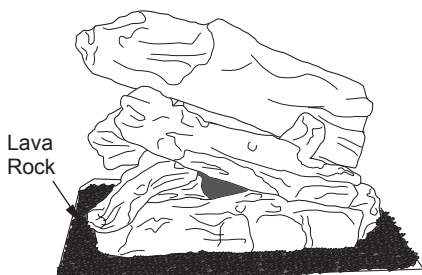

Figure 29 - Installing Lava Rock
2. Place lava rock around base of burner. Make sure burner ports are not covered (see Figure 29, page 21).